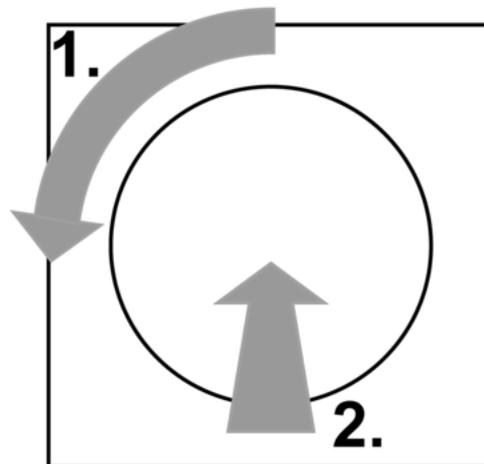

Figure 2: Minimum brightness
- Turn control button a quarter turn in the anti-clockwise direction and press control button (Figure 2).